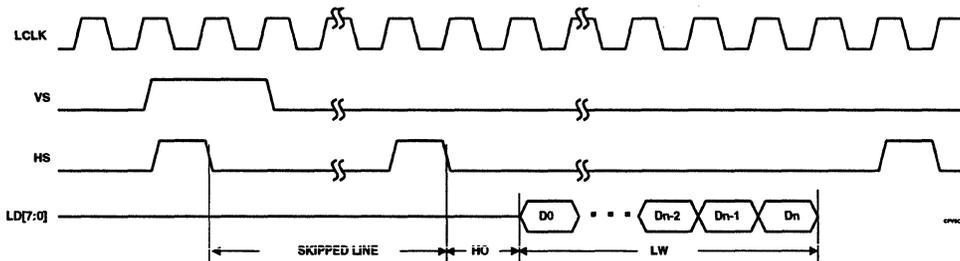

Figure 12-13. Video 8 In or 16 Mode Input
The SAA7110 then sends video data as shown in Figure 12-13. In this figure, both VSYNC (VS) and HSYNC (HS) have active high polarity. The vertical offset (MMFF28\_24-16) is 1, meaning the first line is skipped. The horizontal offset HO (MMFF28\_11-0) is 1, meaning that the first data starts one clock after the second HS goes low. HS goes high again some time after the last byte of the line, whose position is specified by the line width (LW) programmed in MMFF24\_11-0. The widths of the VS and HS pulses shown may vary.